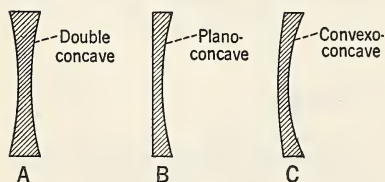

FIG. 477. Diverging lenses are thicker at the edges. A. Double concave. B. Plano-concave. C. Convexo-concave.
2. *Diverging*. When a lens is thicker at the edges than it is in the middle, it tends to make rays of light more divergent. The double concave lens and the plano-concave lens of Fig. 477 are *flat* lenses. The convexo-concave lens is a *meniscus* lens.